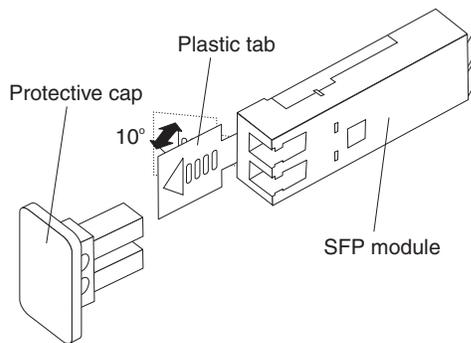

Figure 42. Unlocking the SFP module latch - plastic variety
- For SFP modules that contain plastic tabs, unlock the SFP module latch by pulling the plastic tab outward 10°, as shown in Figure 42.